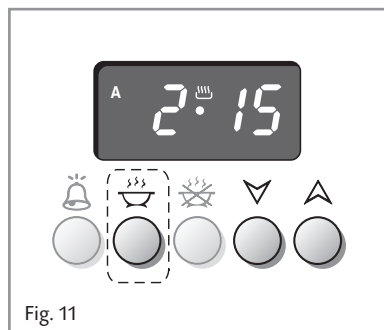

Fig. 11
1. METHOD: Programming the cooking time (Fig. 11)